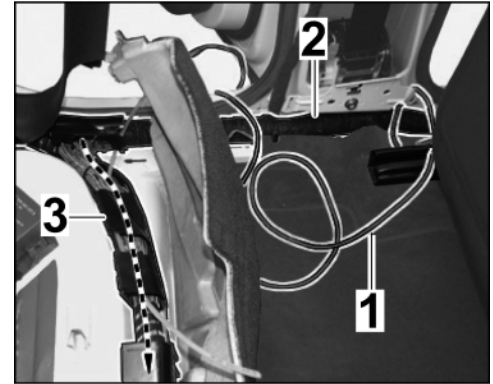

Figure 9
2.3.3 Route electric wire harness along the main wire harness in the passenger compartment at the left through the cable duct in front of the rear seat to the right-hand side of the vehicle (⇒ *Figure 9*).